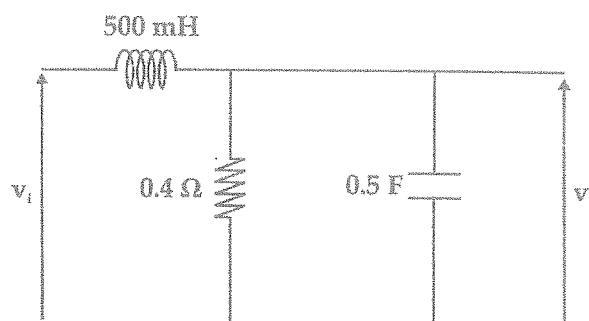

Figure Q3(b)
- b) Consider the circuit shown in Figure Q3 (b). The input voltage is v_i and the output voltage (v_o) is the voltage across the capacitor.
- Obtain the state-space model of the system given in Figure Q3 (b).